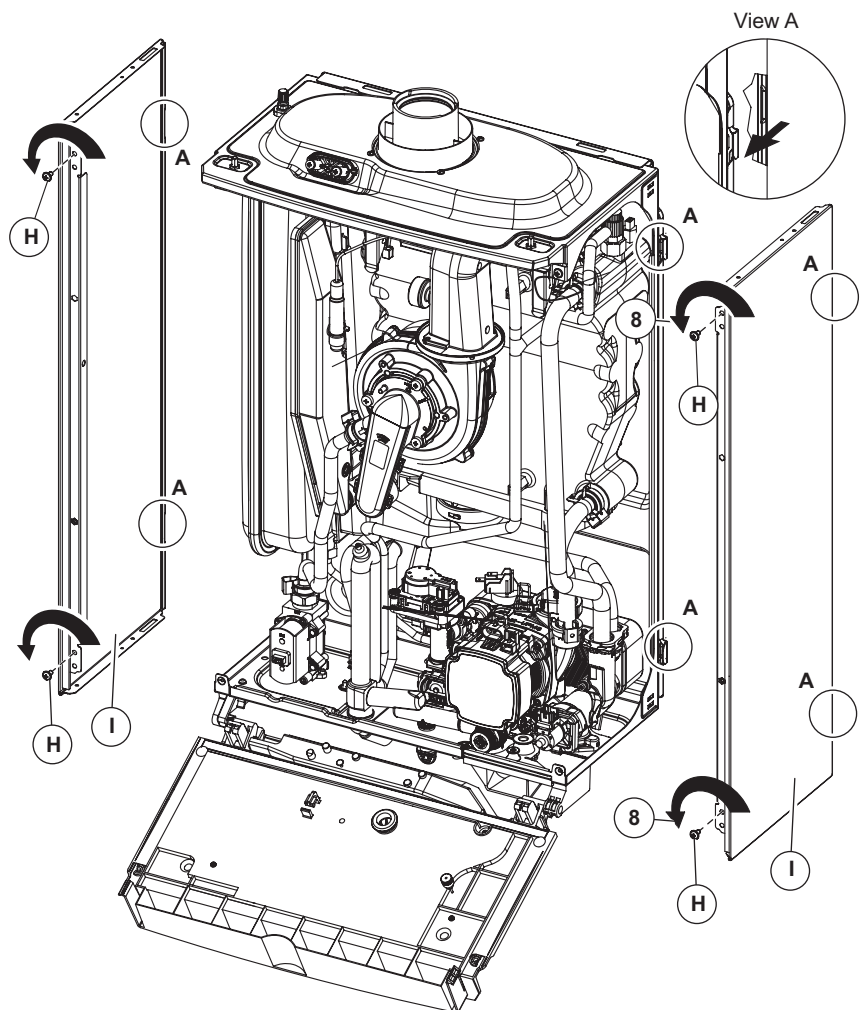

Fig. 6.4
Side panels - Fig. 6.4
8. Remove the screws 'H' securing the side panel 'I'. Lift the side panel and pull it forwards unhooking it from the rear panel (view 'A' in Fig. 6.4) Lower the panel out and away from the top cover.